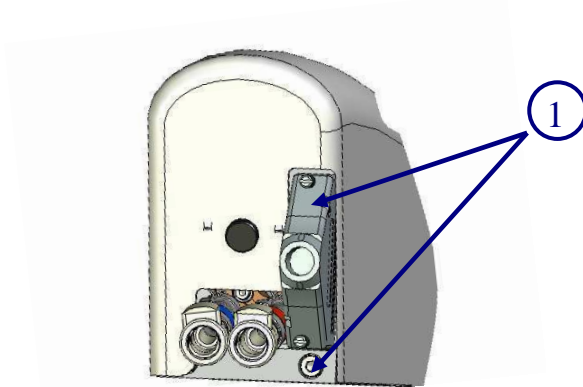

Figure III-7: Disconnection description
3. Loosen the two screws of the power connector (1 of Figure III-7) on the ICE and laser head and disconnect them.